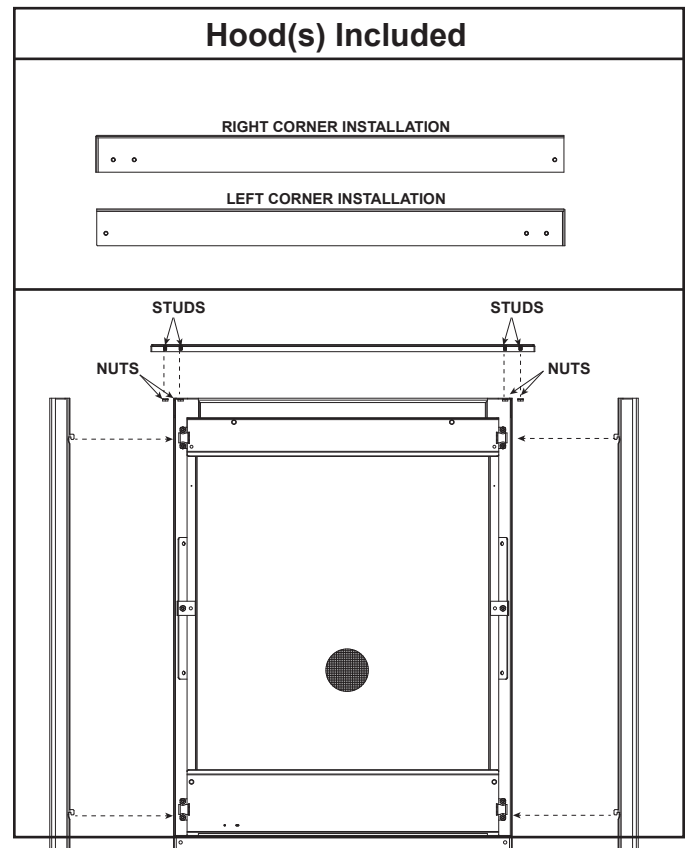

Figure 1. Install Corner Posts and Hood
1. Remove end panel and decorative front components from packaging. The appropriate hood(s) for a left or right-sided corner application have been included with the end panel. See Figure 1.
3. Install the appropriate hood by inserting studs into the holes on the top of the decorative front and corner post. Attach nuts to secure the hood onto the decorative front. See Figure 1.